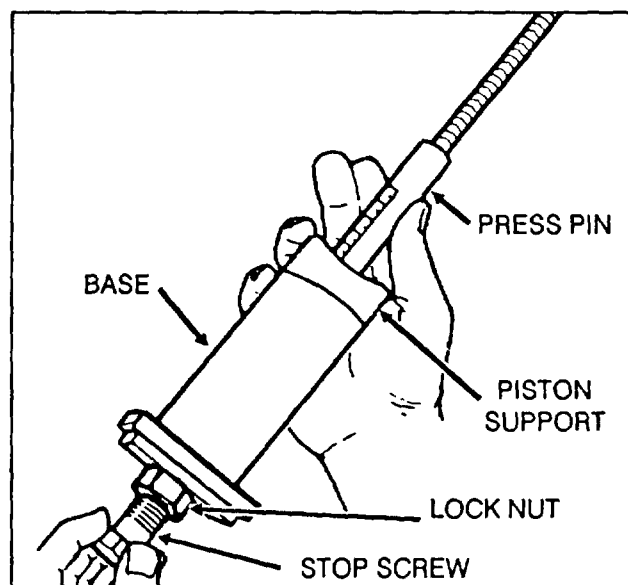

Figure 5
1. Thread the stop screw and lock nut assembly into the base. Fit the correct piston support on top of the base. Insert the press pin, threaded end up, into the hole in the piston support until its end touches the stop screw. See Figure 5.